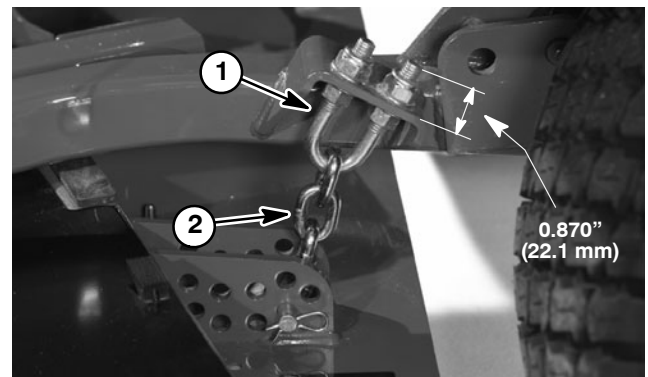

Figure 3
5. If height-of-cut chain u-bolt was removed from lift arm, assemble u-bolt so that threaded portion extends **0.870" (22.1 mm)** above mounting plate on lift arm (Fig. 3).